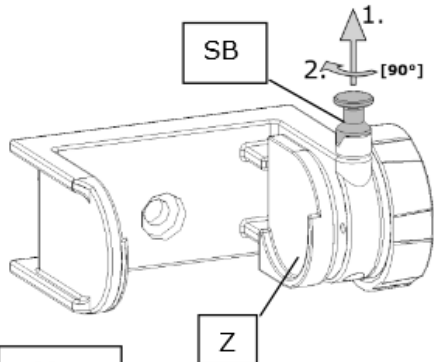

Abb.1
Place the milling cups, filled with the material to be milled and the milling balls, into the centering points **Z** of the clamping device and clamp firmly. **Fig.1/2**
- Remove the locking pin **SB** upwards from the groove and turn through 90°. **Fig.1/2**
- Turn the handwheel **HD** counterclockwise until the max. clamping range is reached. **Fig.1/2**